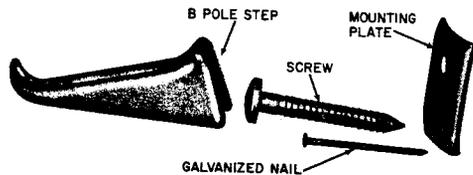

Fig. 2—B Pole Step
2.02 Figure 2 illustrates a B pole step (temporary type).